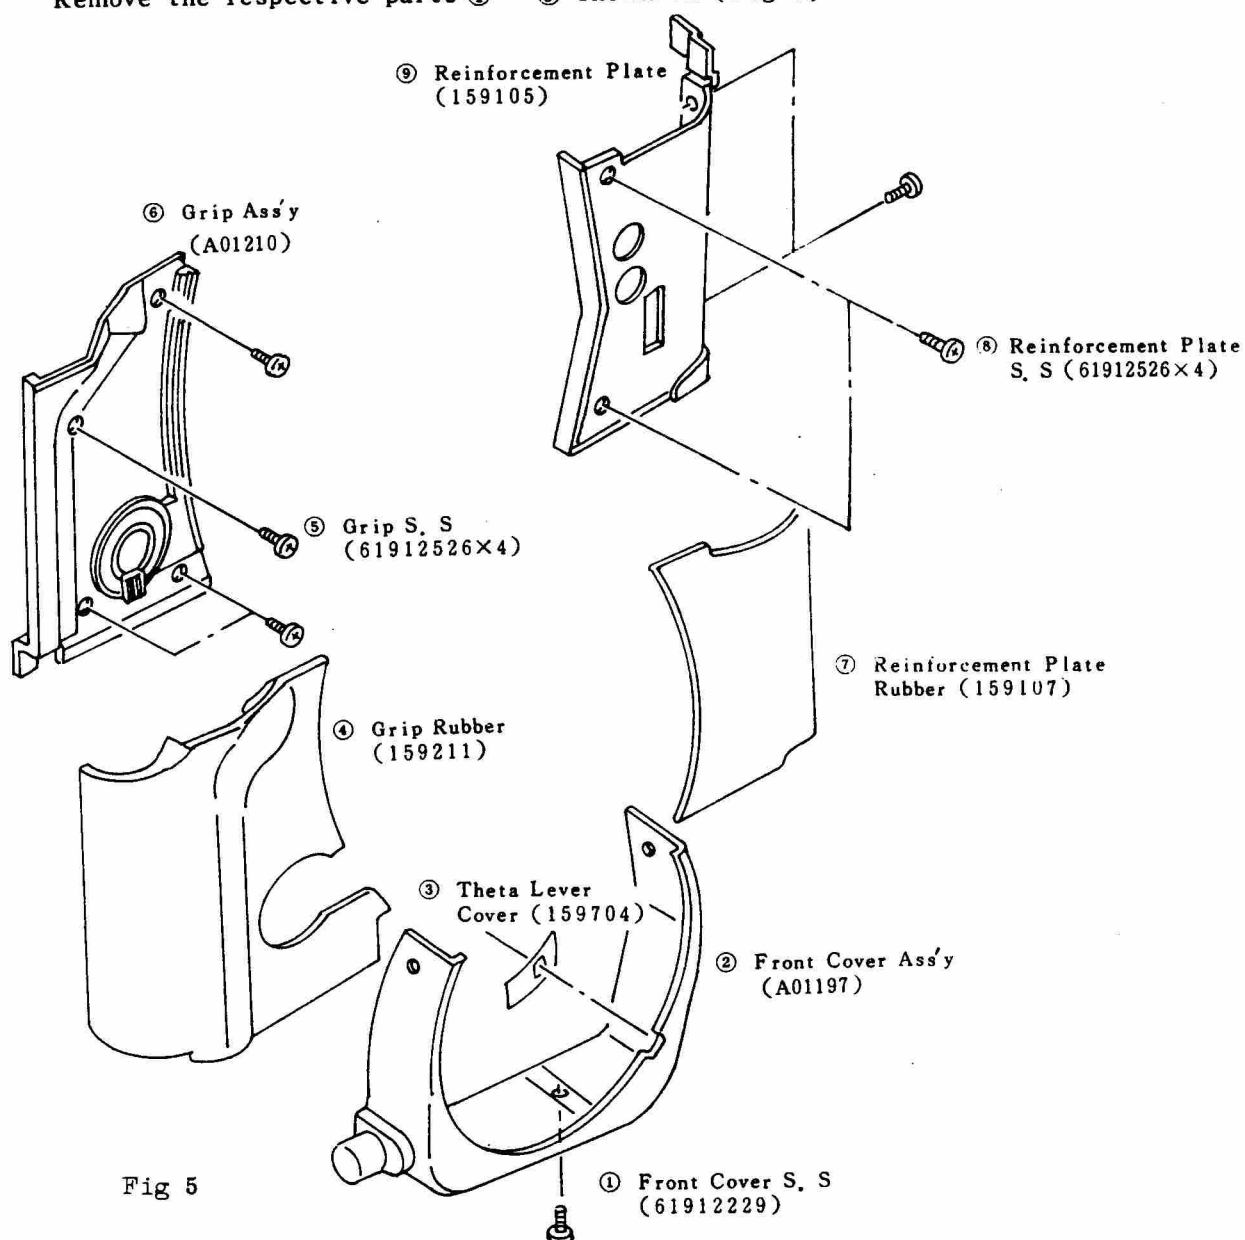

Fig 5
Remove the respective parts ① ~ ⑨ shown in (Fig 5) in numerical order.